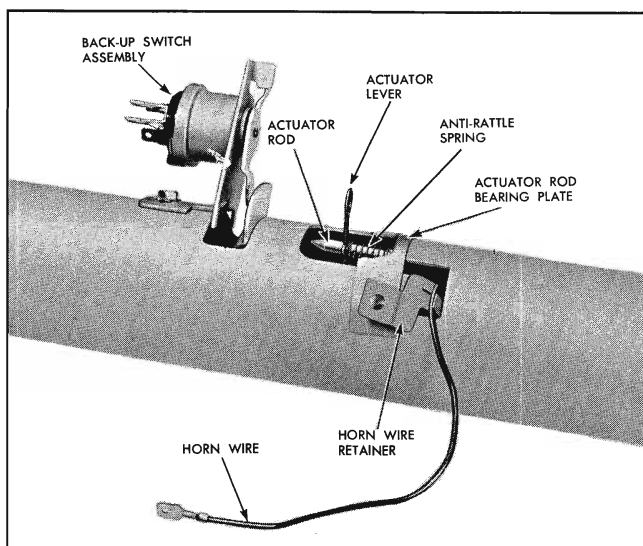

Fig. 11-132 Details at Lower End of Actuator Rod
6. Hold actuator rod anti-rattle coil spring and bearing plate and remove hair-spring type actuator lever from actuator rod (Fig. 11-132).
4. Install actuator rod bearing plate, direction signal switch and horn wire retainer in appropriate position on housing (Fig. 11-132).